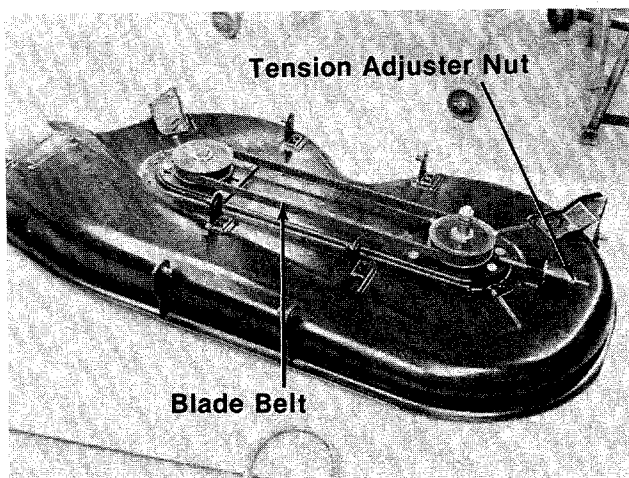

FIGURE 35.
4. Loosen the tension adjusting nut. (See figure 35.)
3. Tighten the tension adjustment nut. See figure 35.